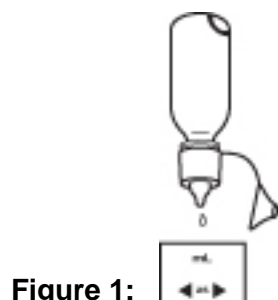

Figure 1:
1. Add 10 drops of the Neutralizer solution to the sample cup. *See Figure 1.*